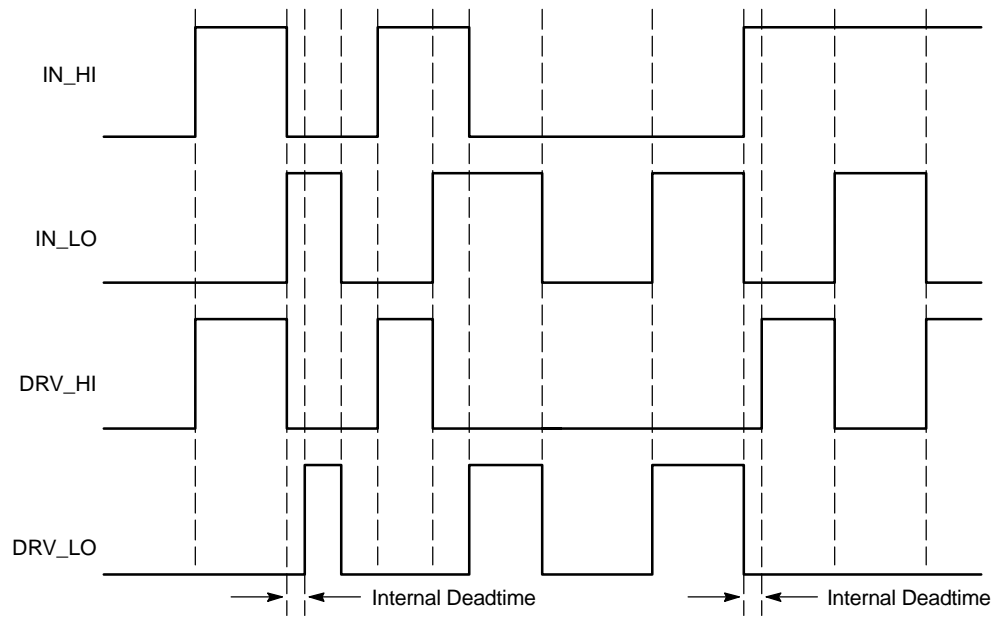

Figure 7. Input/Output Cross Conduction Output Protection Timing Diagram
4. Timing diagram definition see Figure 7.